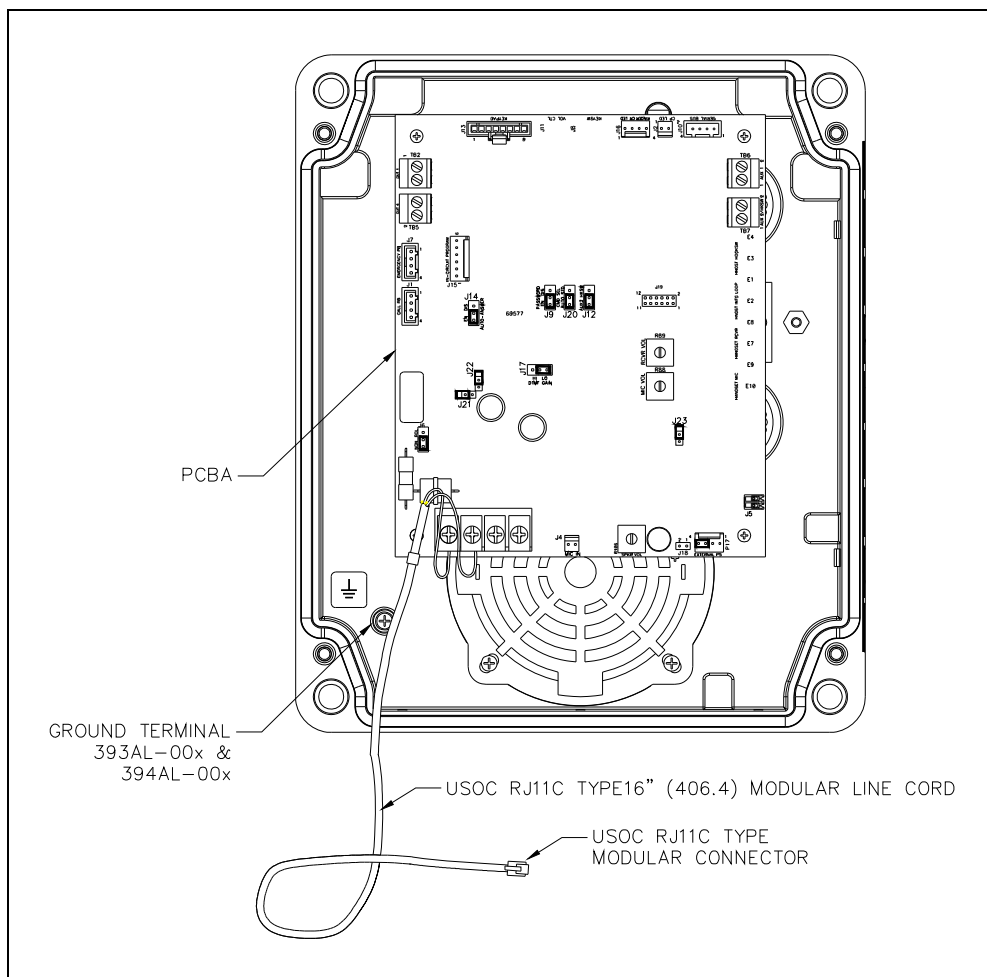

Figure 8. Model 393-00x, 393AL-00x, and 394AL-00x Component Locations
5. Connect the telephone's modular plug to a USOC RJ11 or CA11A (Canada) modular connector or (if applicable) the telephone line suppressor (see Figure 8).